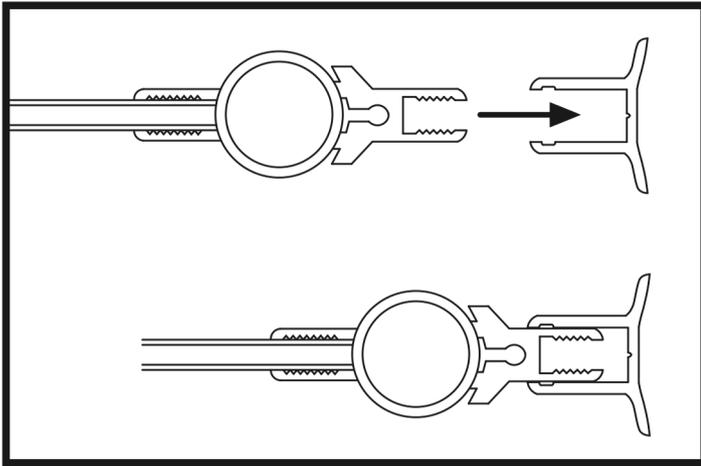

Figure 5
10. Support the glass with its bottom edge on the blocks. Carefully slide the glass with the single hinge into the wall-mount profile, facing toward the wall. (Figure 5)